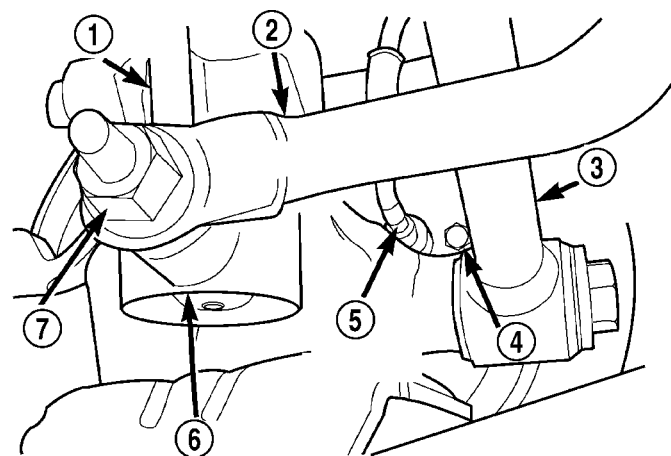

Fig. 6 Wheel Speed Sensor At Adapter
(1) Remove the rear seat cushion, and the rear seat back, from the interior of the car. Refer to Seats in the Body section of this manual for the required procedure to be used for this vehicle.
(2) Disconnect the wheel speed sensor cable from the wire harness.
(3) Raise vehicle. (Refer to LUBRICATION & MAINTENANCE/HOISTING - STANDARD PROCEDURE)
(4) Remove the rear wheel and tire assembly from the vehicle.
(5) Remove the grommet from the floor pan, along with the end of the cable that fastens to the wire harness.
(6) Remove the sensor cable from the routing bracket attached to the strut tower flange.
(7) Remove the wheel speed sensor head and routing bracket from the disc brake caliper adapter by removing the bolt, then the sensor (Fig. 6).
(1) Install rear wheel speed sensor and routing bracket into brake caliper adapter. Install head attaching bolt (Fig. 6) and tighten to 7 N·m (60 in. lbs.).
(2) Install the sensor cable to the routing bracket attached to the strut tower flange.